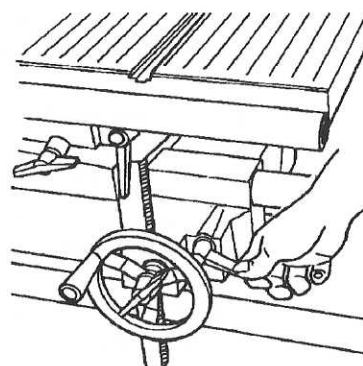

Fig. B-63
25. Tighten the carriage lock, as shown in Fig. B-63.